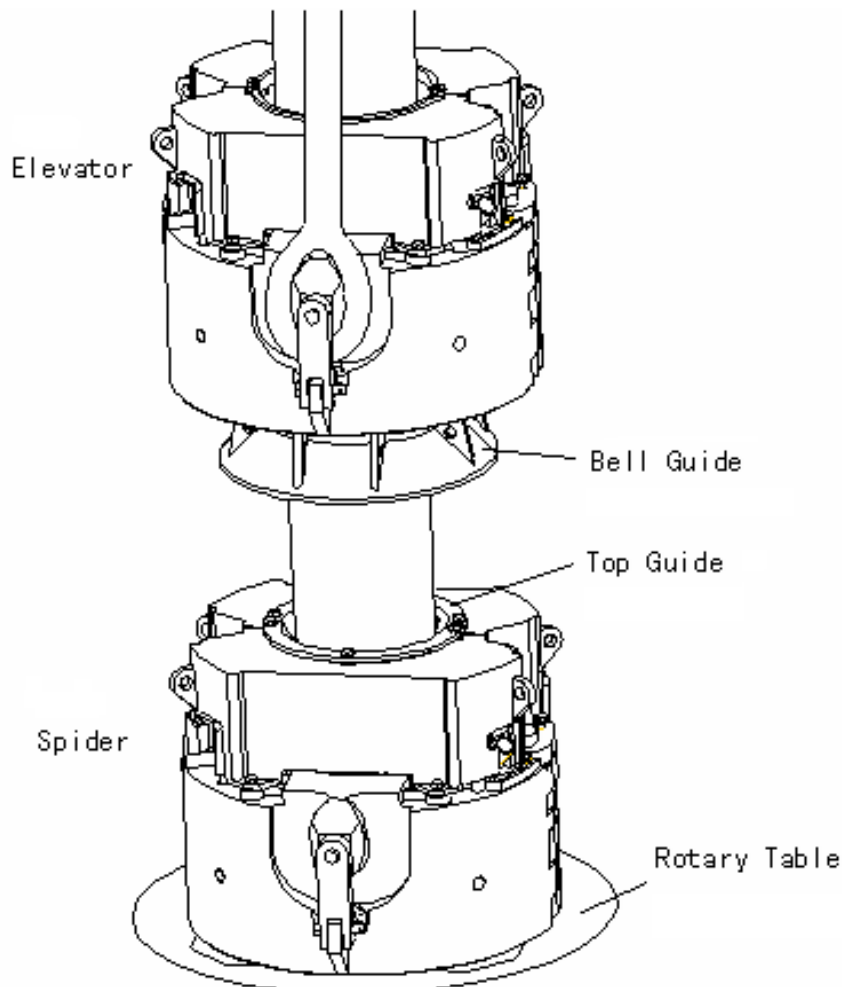

Fig.1
SE500 casing elevator/spider can be used alone as a spider, or as an elevator. The elevator is fitted with a bell guide and bottom guide. The spider is fitted with a top guide that centers the spider over the master bushing. (Fig. 1)
4.2 Refer to Table 1 and check slips, inserts, bell guide and to guide for meeting the casing size to handle. And ensure all the parts are fixed correctly in place. Refer to Fig.1 and Fig.3 for installation.